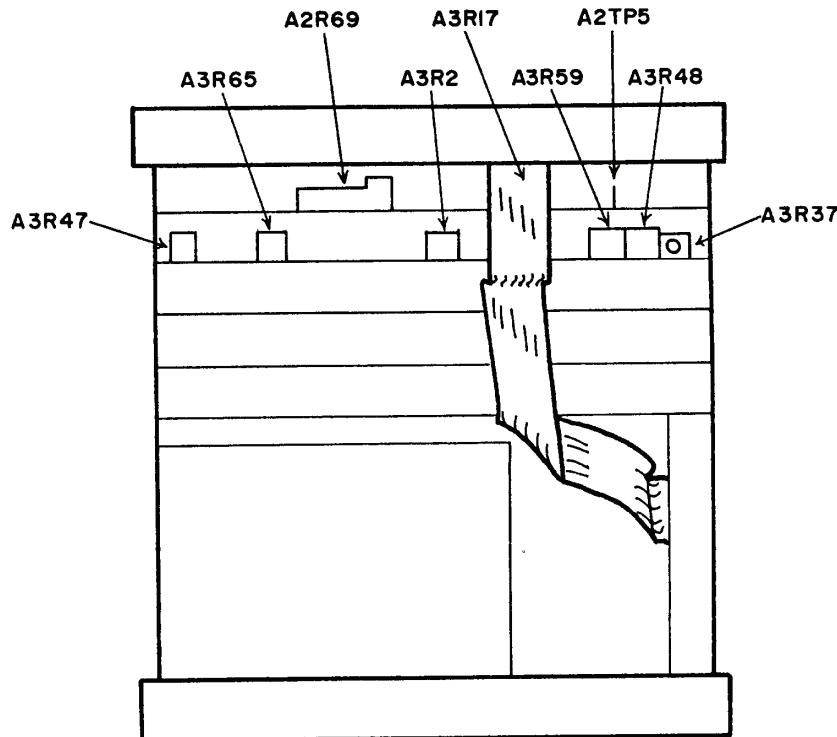

Figure 1. Models 436A and 436AOPT9/22 - adjustment locations.
(1) Set range calibrator **RANGE** switch to **100 mW** and **FUNCTION** switch to **CALIBRATE**. Verify that TI autoranges to 100 mW range, then set the **RANGE HOLD** pushbutton to on (in).
(2) Set range calibrator **FUNCTION** switch to **STANDBY**.
(3) Adjust **DC OFF** potentiometer A3R2 (fig. 1) for a digital readout of **00.0** with a blinking minus sign (R).
- (4) Set **RANGE HOLD** pushbutton to off (out).
- (5) Verify that TI autoranges to 10  $\mu\text{W}$  range.
- (6) Press and hold **SENSOR ZERO** pushbutton and adjust **ZERO OFF** potentiometer A3R47 (fig. 1) until digital readout indicates **0.00** with blinking minus sign (R).
- (7) Set range calibrator **FUNCTION** switch to **CALIBRATE** and **RANGE** switch to **100  $\mu\text{W}$** .
- (8) Adjust TI front-panel **CAL ADJ** control until digital readout indicates **100  $\mu\text{W}$** .
- (9) Press and hold **SENSOR ZERO** pushbutton and adjust **BAL** potentiometer A3R65 (fig. 1) until display readout indicates **60.0  $\mu\text{W}$**  (R).
- (10) Set range calibrator **FUNCTION** switch to **STANDBY**. Press **SENSOR ZERO** pushbutton and wait for digital readout to stabilize.
- (11) Press **SENSOR ZERO** pushbutton and wait for display readout to stabilize. Release **SENSOR ZERO** pushbutton and wait for **ZERO** light to extinguish.